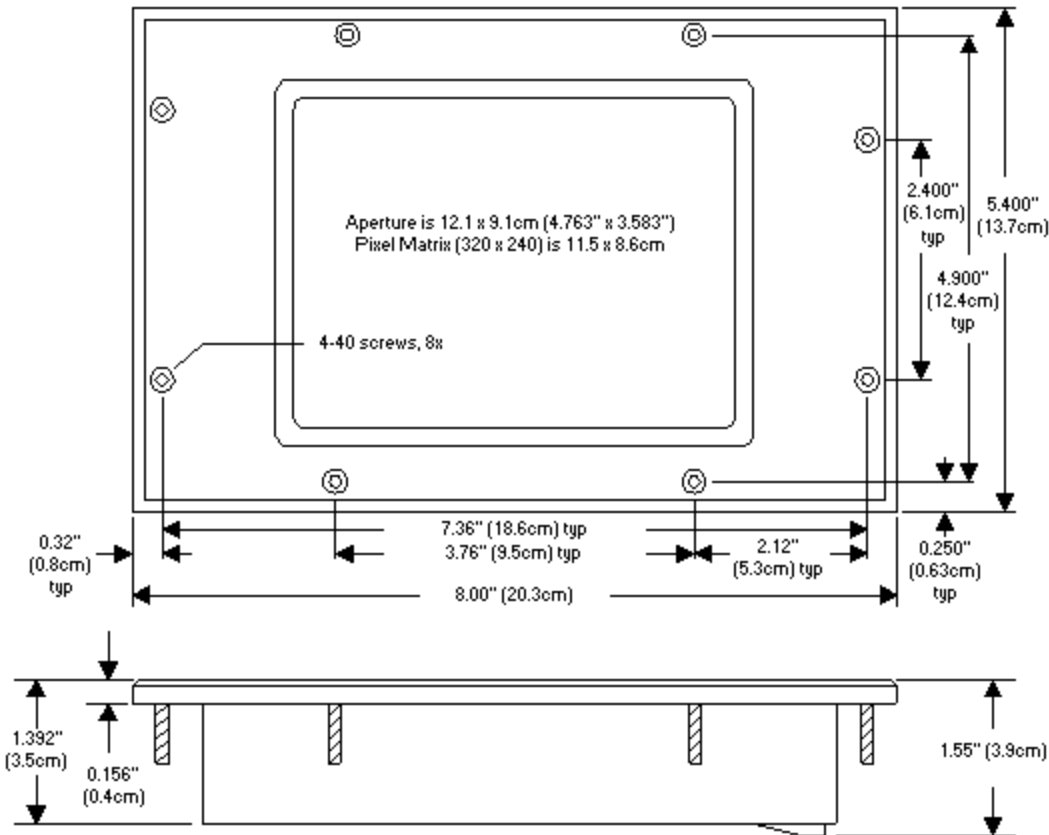

Figure 3.4: Nexus P60N Touch Screen Display Mounting Diagram
- If multiple I/O modules are connected together, as shown in Figure 3.4, secure a mounting bracket to both ends of the group. One Nexus will supply power for up to **four I/O modules**. To connect more than four I/O modules, use an additional power supply, such as the EIG PSIO. Connect multiple I/O modules using the RS-485 side ports.